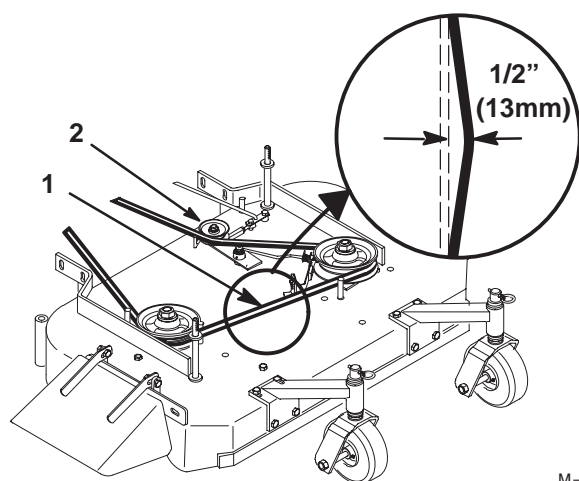

Figure 46
3. Remove mower belt (Fig. 46).
7. Install the mower belt (Fig. 46).
3. Remove idler pulley and then remove worn belt (Fig. 46).
Note: Proper belt tension is 10–15 lbs. with the belt deflected a 1/2" (13mm) halfway between pulleys (Fig. 46).